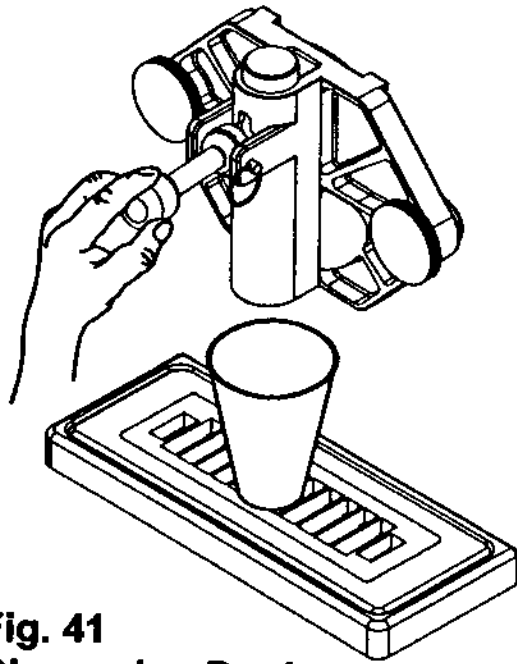

Fig. 41
2. Using approximately 1/2 to 1 gallon (2 to 4 liters) of product mix, chase the sanitizing solution from the mix pan by pouring behind any remaining solution which will then drain through the machine. Doing so will make certain that sanitizing solution will not remain in the machine to freeze or be served to the customer. Open the spigot plunger (Fig. 41) and then dispense enough of the liquid to purge the system of sanitizing solution.